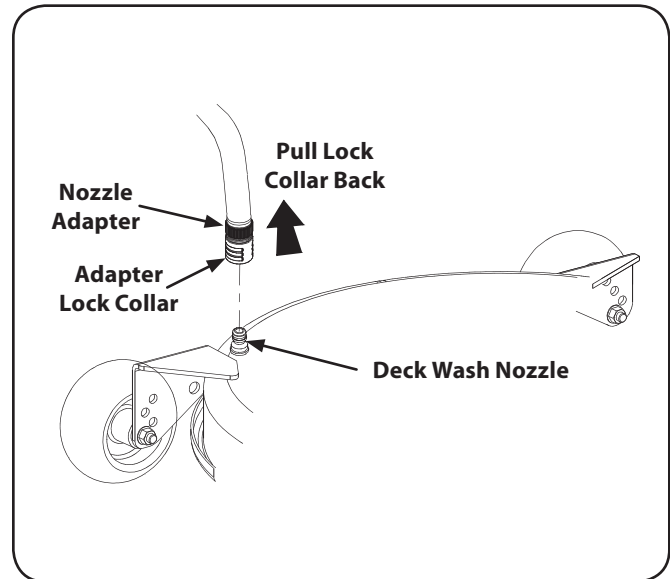

Figure 6-2
3. Pull back the lock collar of the nozzle adapter and push the adapter onto one of the deck wash nozzles at either end of the mower deck. Release the lock collar to lock the adapter on the nozzle. See Fig. 6-2.